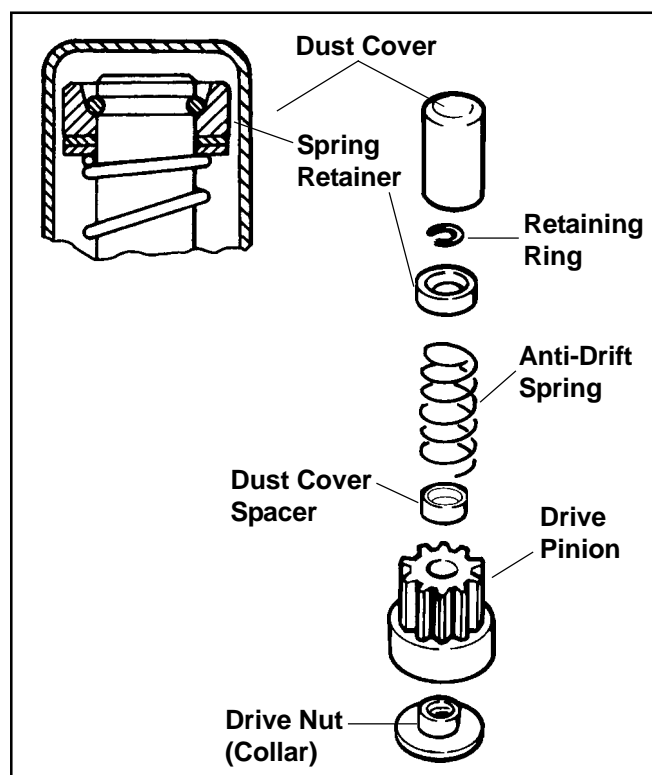

Figure 8-31. Drive Components, “Bonded” Inertia Drive Starter.
1. The rubber dust cover has a molded lip on the inside that snaps into a groove in the dust cover spacer (see Figure 8-31). Turn the drive pinion clockwise until it reaches the fully extended position. While holding it in the extended position, grasp the tip of the dust cover with a pliers or vise grip and pull it free from the spacer.
3. Again referring to Figure 8-31, grasp the spring retainer and push it toward the starter, compressing the anti-drift spring and exposing the retaining ring.